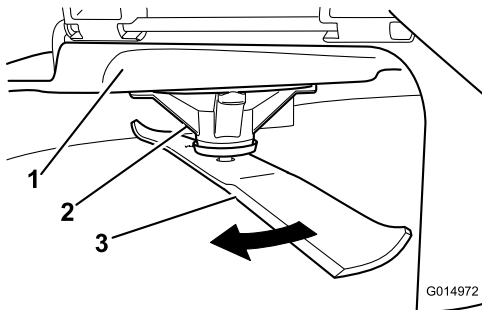

Figure 91
2. While wearing thickly padded gloves, or other adequate hand protection, slowly rotate the blade into a position that allows you to measure the distance between the cutting edge and the level surface the machine is on (Figure 91).